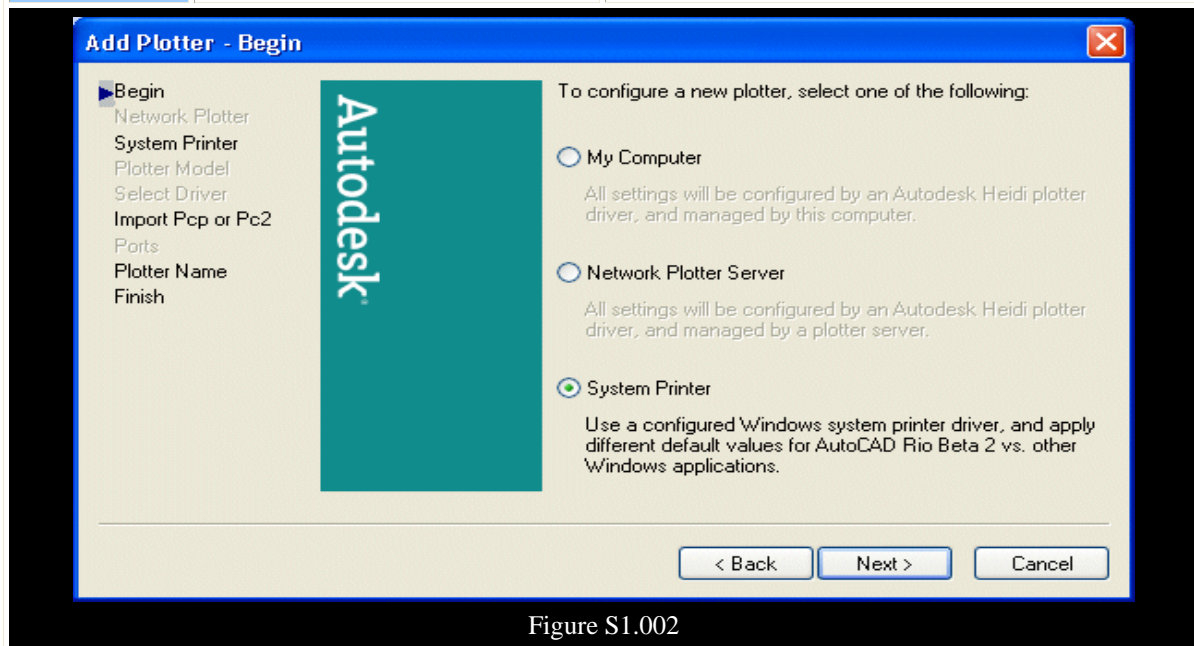

Figure S1.002
4. AutoCAD presents the first dialog box (Figure S1.002) with the options for selecting the type of printer/plotter you wish to add. <ul style="list-style-type: none"> <li>○ The My Computer option will add a plotter.</li> <li>○ The Network Plotter Server option will add a network plotter.</li> <li>○ The System Printer will add a local printer (or the printer your computer is already using).</li> </ul> <p>We'll add a system printer. Put a bullet in that option, and then pick the Next &gt; button.</p>